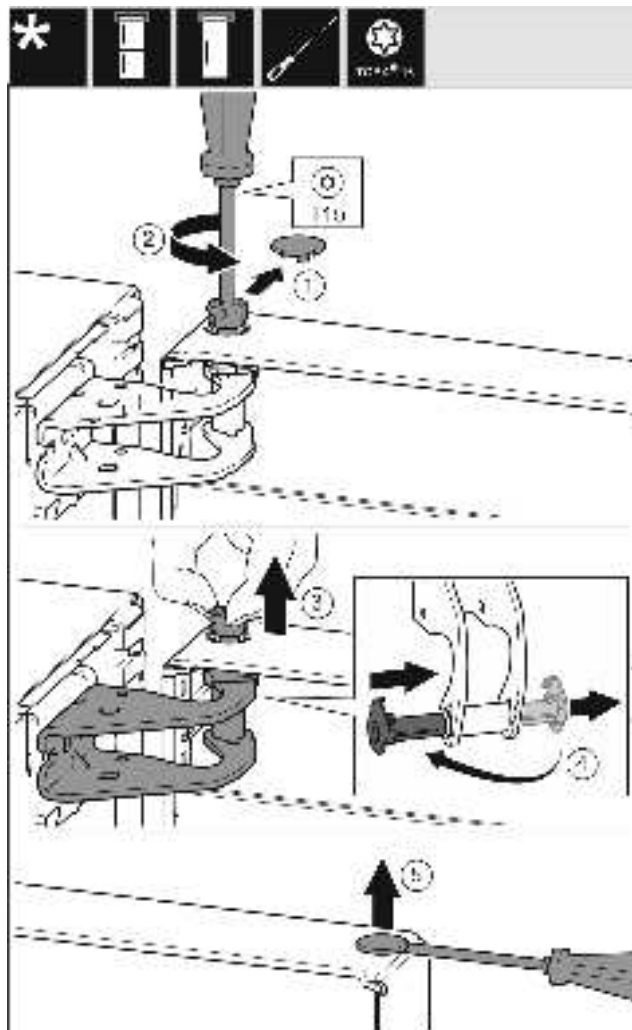

Fig. 9
- Carefully remove the protective cover. *Fig. 9 (1)*
- Loosen the bolts slightly with a T15 screwdriver. *Fig. 9 (2)*
- Hold the door and remove the bolts with your fingers. *Fig. 9 (3)*
- Pull the bearing bush out of the guide. Insert from the other side and latch into place. *Fig. 9 (4)*
- Carefully lift the plugs out of the door bearing bush with a slotted screwdriver and remove them. *Fig. 9 (5)*